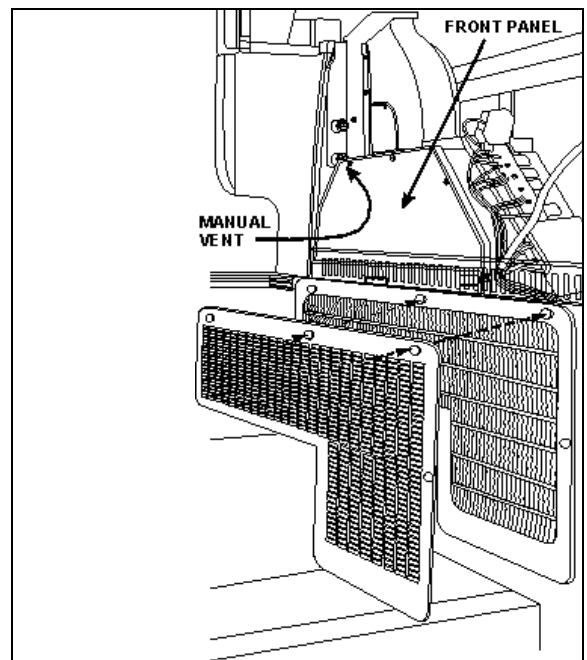

FIGURE 38: DRIVER'S HVAC UNIT 22328
4. From inside of vehicle, remove the two finishing panels in front of unit. Remove the three screws fixing the unit front panel. Open the manual vent located inside the HVAC unit, on the driver's side (Fig. 38) to ensure an efficient draining.